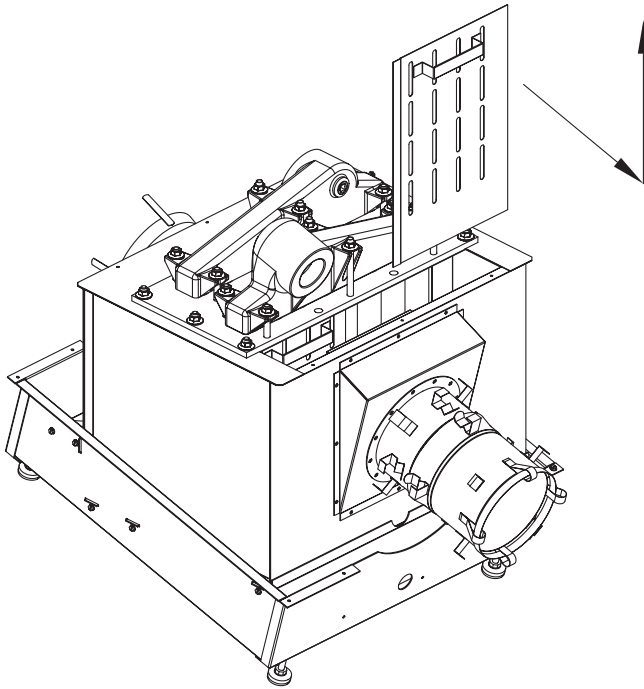

Fig. 35: CHX Right-Side Baffle Removal
4. Slide the left side baffle to the right before it can be pulled out, as shown in Figure 35.